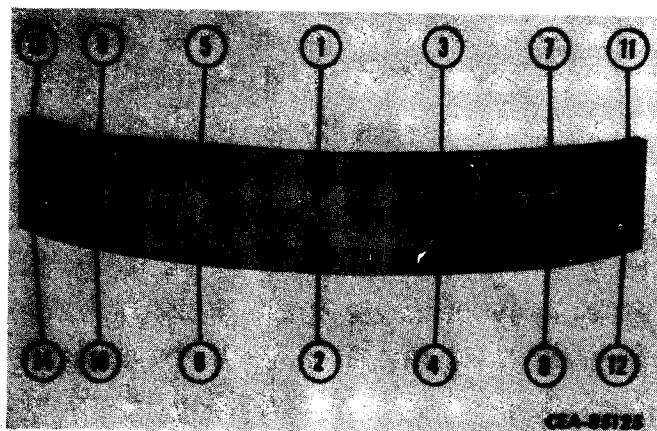

Figure 13-64
- Using a rivet press, install rivets following sequence shown in Fig. 13-64.